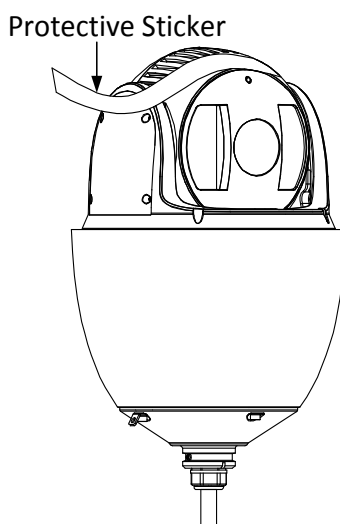

Figure 1-18 Protective Sticker
1. Remove the protective sticker as shown in Figure 1-18.